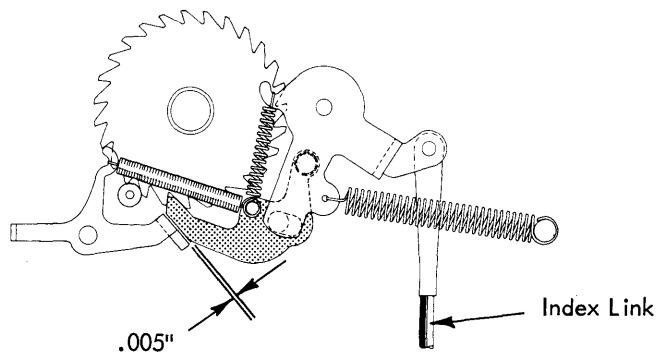

FIGURE 153. Platen Overthrow Stop
4. Platen Overthrow Stop - With the index cam rotated to its high point, adjust the platen overthrow stop to clear the index pawl by .005" (Fig. 153).